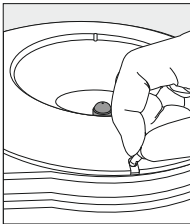
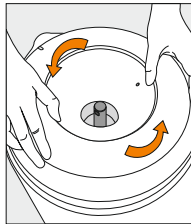

Figure 32
Figure 33
3. Remove the locking pin from the Crystal Guard (Figure 32), which may be stiff, requiring a tool. Use the fingertips of both hands to press on the Crystal Guard and turn counter clockwise till it is free from the cooler opening (Figure 33)